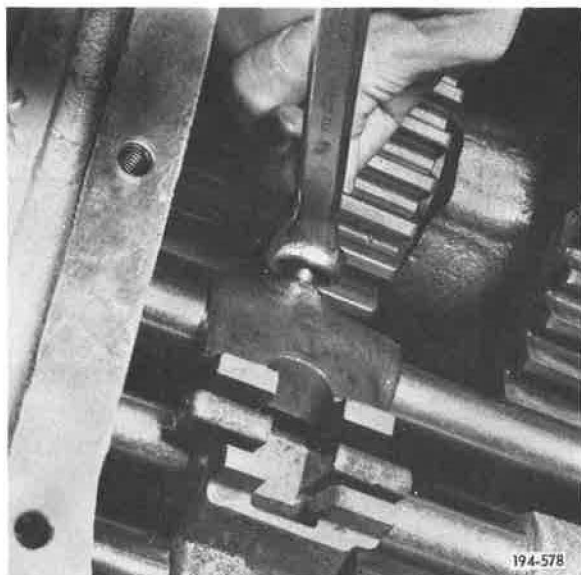

Figure 401. Installing Setscrew
19. Install setscrew into fourth/fifth speed shift fork, and tighten to 35 to 45 lb. ft. torque. Refer to Torque and Tolerance Table, Item 10. See Figure 401.